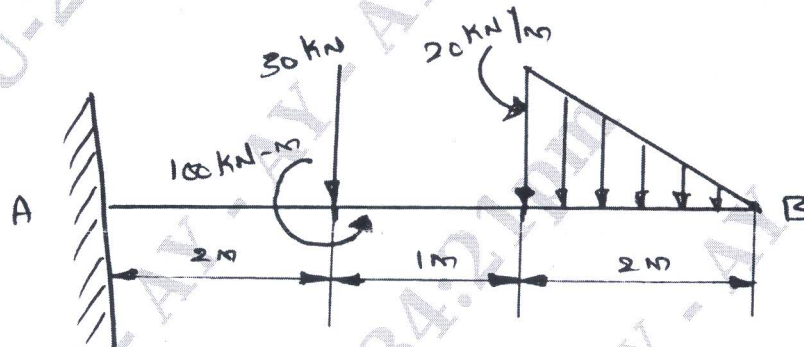

Fig.Q5
- 5 Draw the shear force diagram and bending moment diagram for the beam loaded as shown in Fig.Q5. Locate the point of contraflexure if any.